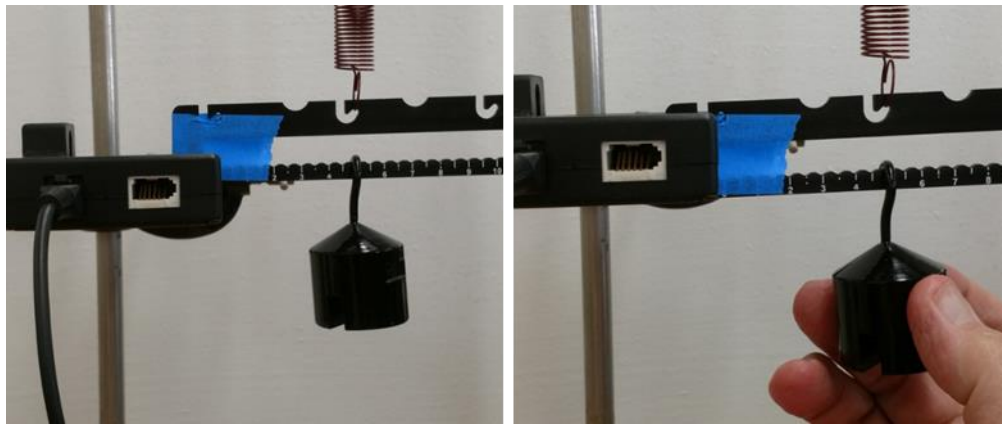

Figure 7 – Pulling down the mass for measurement.
- d. Verify you're in the correct location by pulling gently down on the mass, about 1 cm, then releasing it as shown in Figure 7. The parallel bar shouldn't go below the bottom of the photogate when you pull it. The red LED should be flashing on the side as it goes in and out of the beam.
- Just as before, shown in Figure 7, pull the mass vertically down about 1cm and release it.